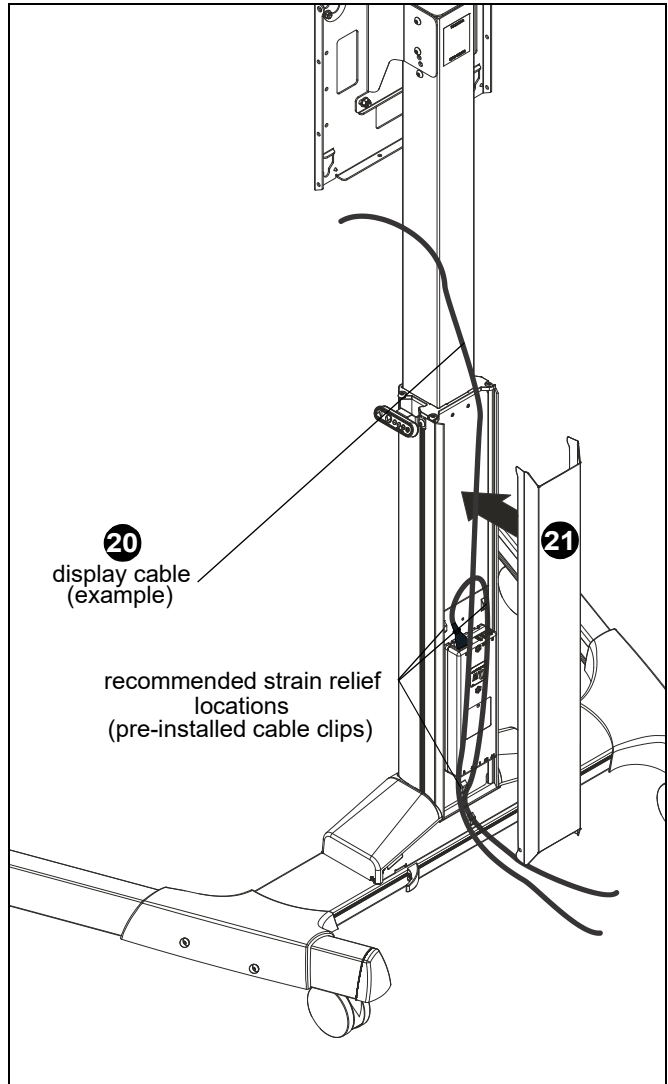

**Figure 10**
17. Plug in power cable (V) to outlet.
18. Press and hold "DOWN" button for three seconds to initialize lift mechanism. (See Figure 10)
19. Press and hold "UP" button until mount reaches its maximum height. (See Figure 10)